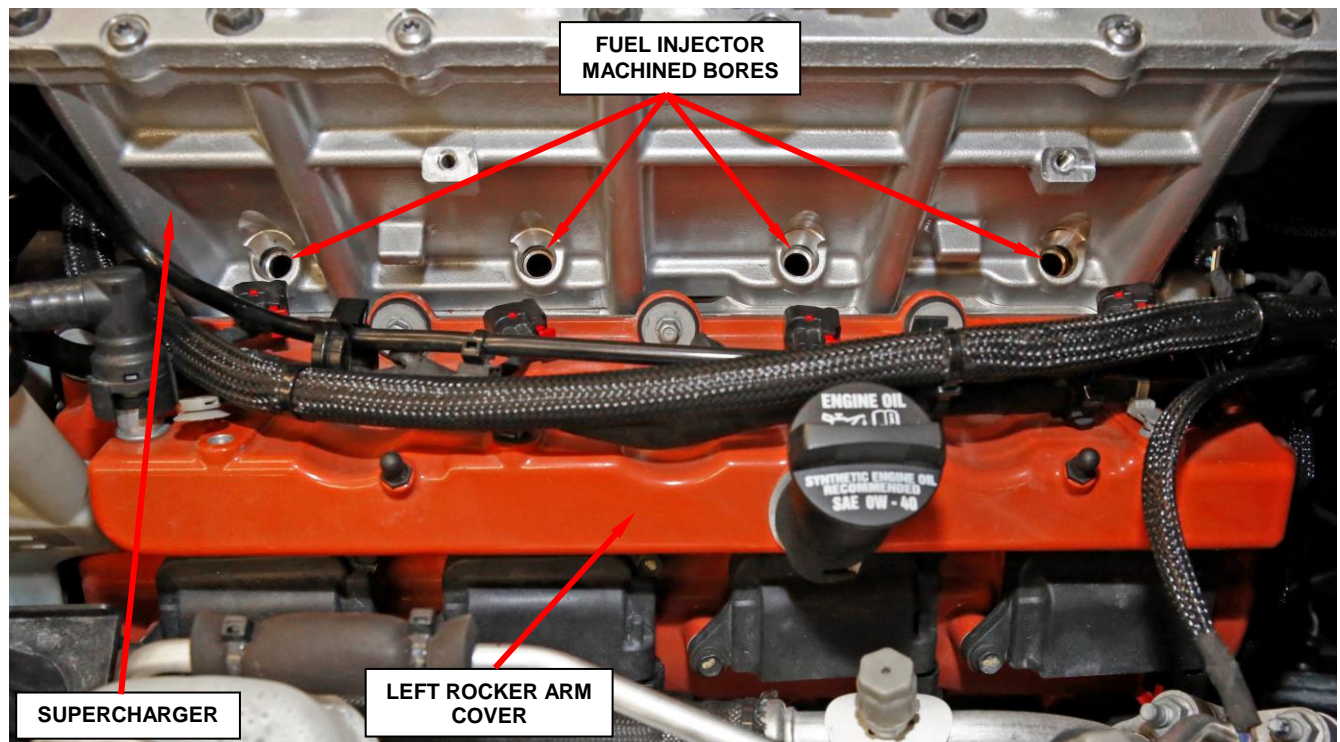

Figure 13 – Clean Fuel Injector Machined Bores
12. Using a 11/32 nut driver (or equivalent) and a lint free cloth, apply a small amount of brake cleaner to the lint free cloth and clean out each of the fuel injector machined bores in the supercharger (Figure 13).